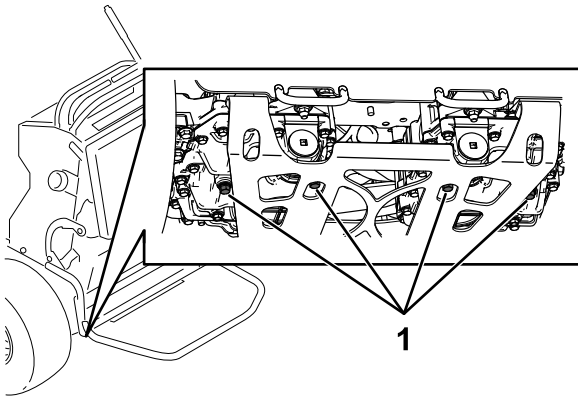

Figure 67
3. Locate the drain plugs in the bottom of the transmission and place a drain pan under the plug (Figure 67).